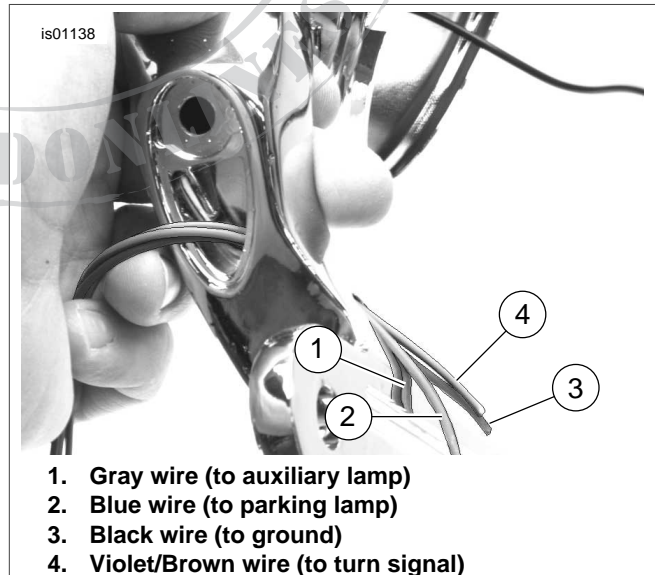
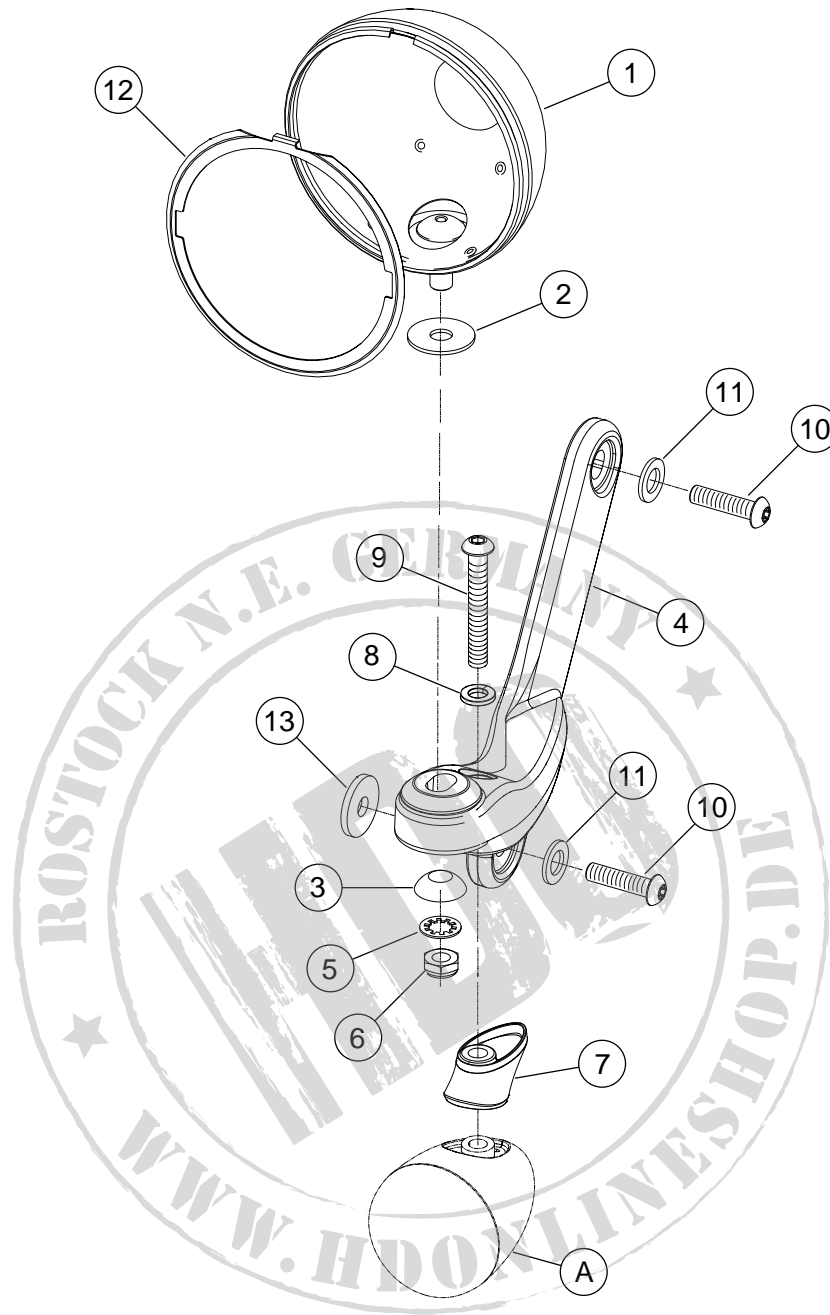

Figure 4. Turn Signal Wire Routing
Figure 9. Service Parts: Custom Auxiliary Lighting Kit
See Figure 9 and Table 1.
1. See Figure 9. Install lamp housing (1), rubber washer (2), clamp block (3), and lamp bracket (4). Secure with lockwasher (5) and nylon locknut (6). Tighten locknut to 14-18 ft-lbs (19-24 Nm). Repeat for other side.
2. Tie small knot in terminal end of gray wire from lamp housing (1) approximately 3-4 inches from terminal to avoid wire getting pulled too far into housing during installation.
4. See Figure 9. Install turn signal assembly (A) to stand off (7) by routing wires through directional stand off and passage in lamp bracket (4) along side gray wire (Figure 4). Secure turn signal assembly using lockwasher (8) and screw. (9). Tighten to 96-120 in-lbs (10.8-13.6 Nm). Repeat for other side.
- See Figure 9. After silicone has dried, place a cable tie (14) from kit approximately 1 inch from sealed area, and clinch around sheathing to secure it in place.
- See Figure 9. Connect wires from lamp assembly to wires previously labeled or marked on motorcycle using butt splice connectors (18) from kit. Refer to SEALED BUTT SLICE CONNECTORS in Service Manual for instructions to splice wires.
2. See Figure 9. Connect wires from lamp assembly to wires previously labeled or marked on motorcycle using butt splice connectors (18) from kit. Refer to SEALED BUTT SLICE CONNECTORS in Service Manual for instructions to splice wires.
1. See Figure 9. Connect and install lamp sealed beams, lens/bulb assemblies, and trim rings using nest rings (12) from kit.